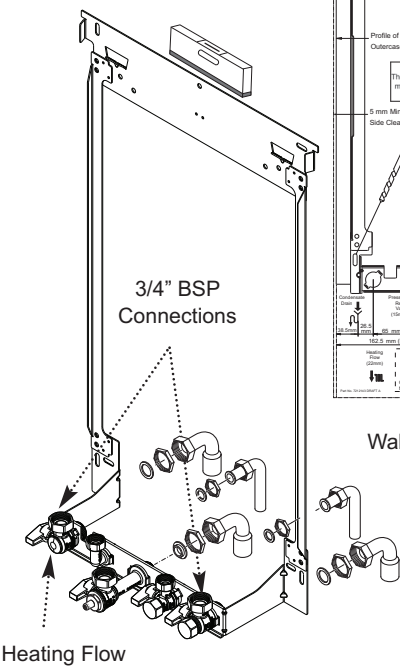

Fig. 16
7. Using a spirit level ensure that the wall jig is level before finally tightening the screws (Fig. 16).